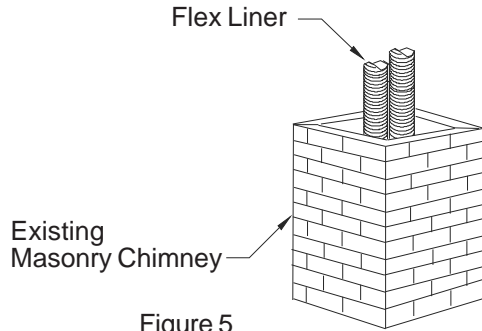

Figure 5
6. Remove the Flex Puller from the Flex Liner and temporarily secure the Flex Liner at the top of the chimney. Be sure to leave 2-3 inches of flex above the existing chimney to allow for connection to the Colinear Cap (see Figure 5).